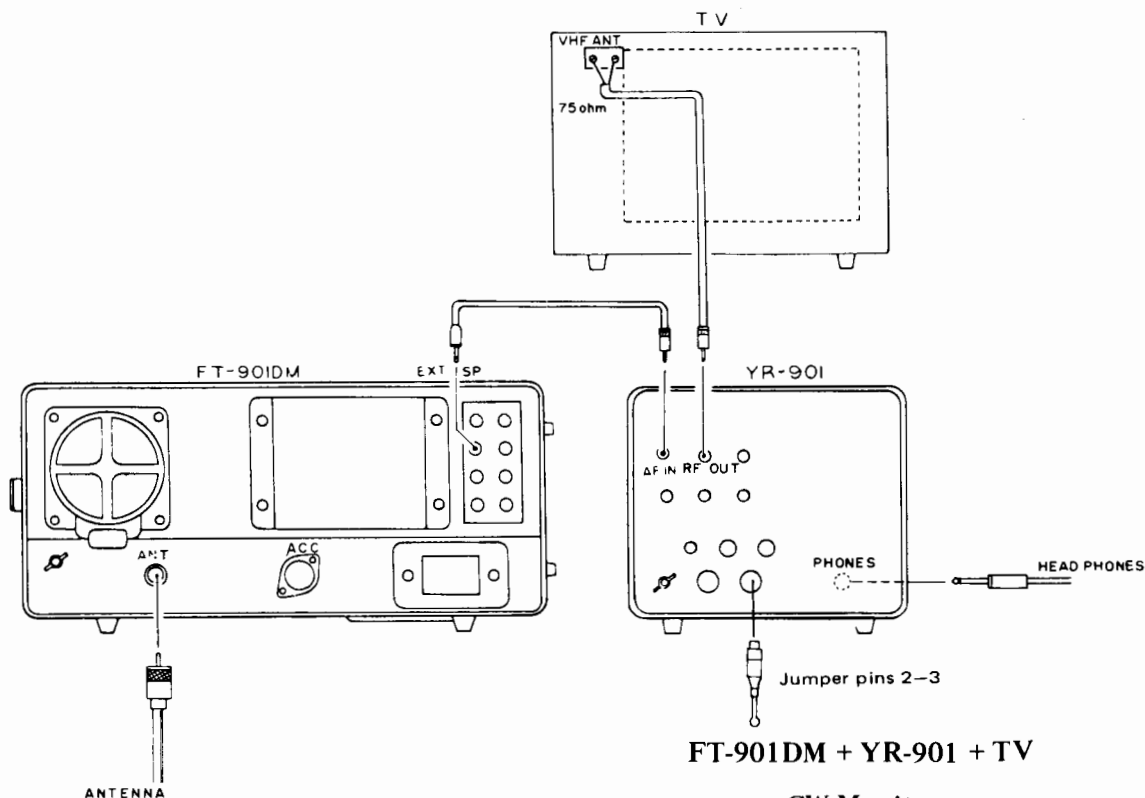
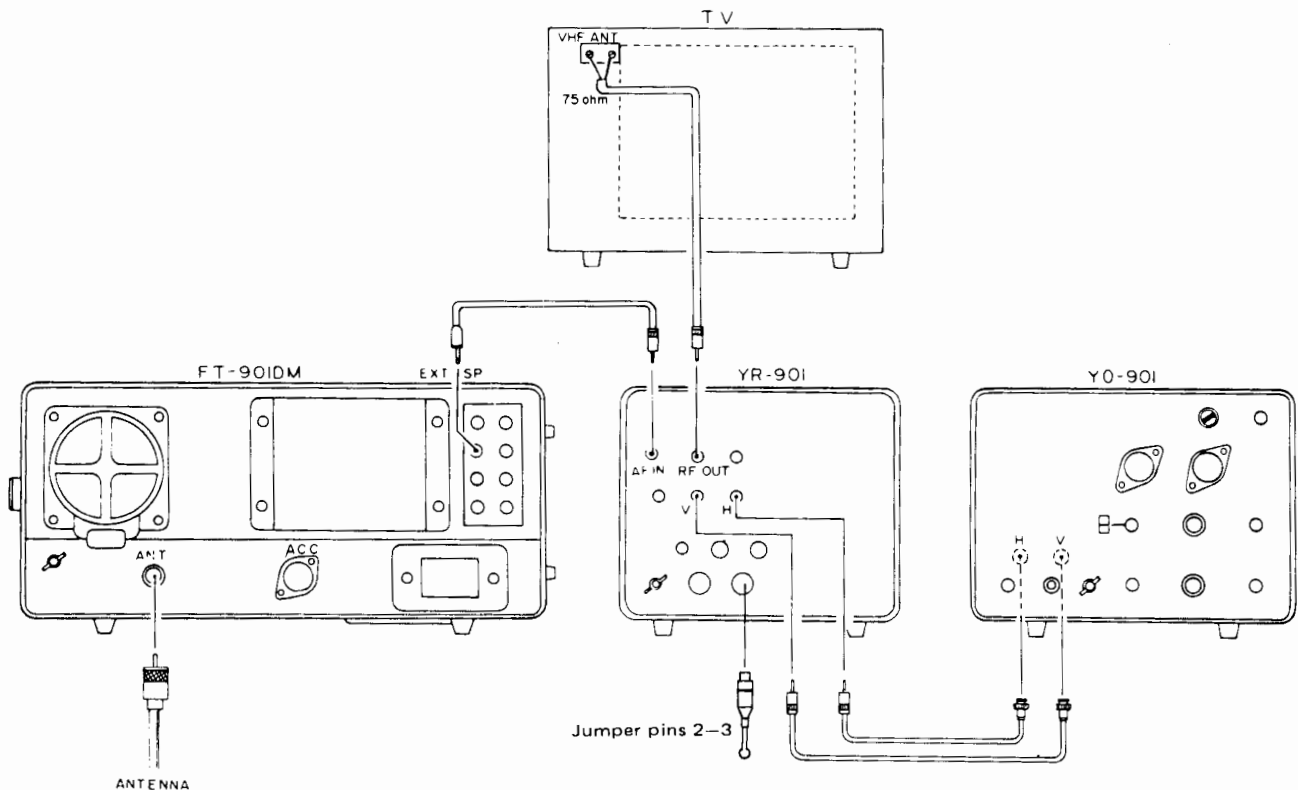

Fig.5
Fig. 7 FT-901DM/YR-901/YO-901/TV
Connect the YR-901, the station receiver, and the TV monitor as shown in Figures 5 and 6. When using the video modulator to drive a home television, see page 18 for details on switching between channels 3 and 4 for output from the video modulator. The output impedance from the YR-901 RF OUT jack is 75 ohms, so a balun must be installed to provide a 75 ohm to 300 ohm unbalanced to balanced feed for those televisions using 300 ohm feed only. The video modulator is an available option. See your Yaesu dealer.
- (1) Set up the YR-901 and station equipment as shown in Figures 5 and 6. If it is desired to use a monitorscope such as the YO-901, Multi-scope for cross pattern monitoring of the RTTY signal, please refer to Figure 7 for interconnection details.
- (2) Preset the controls and switches as follows: